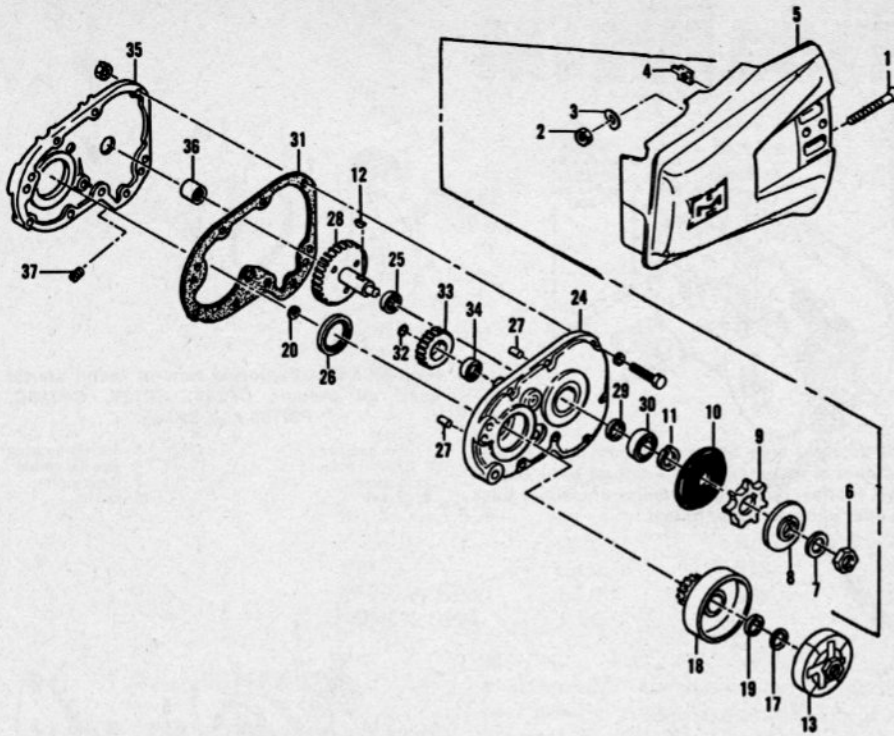
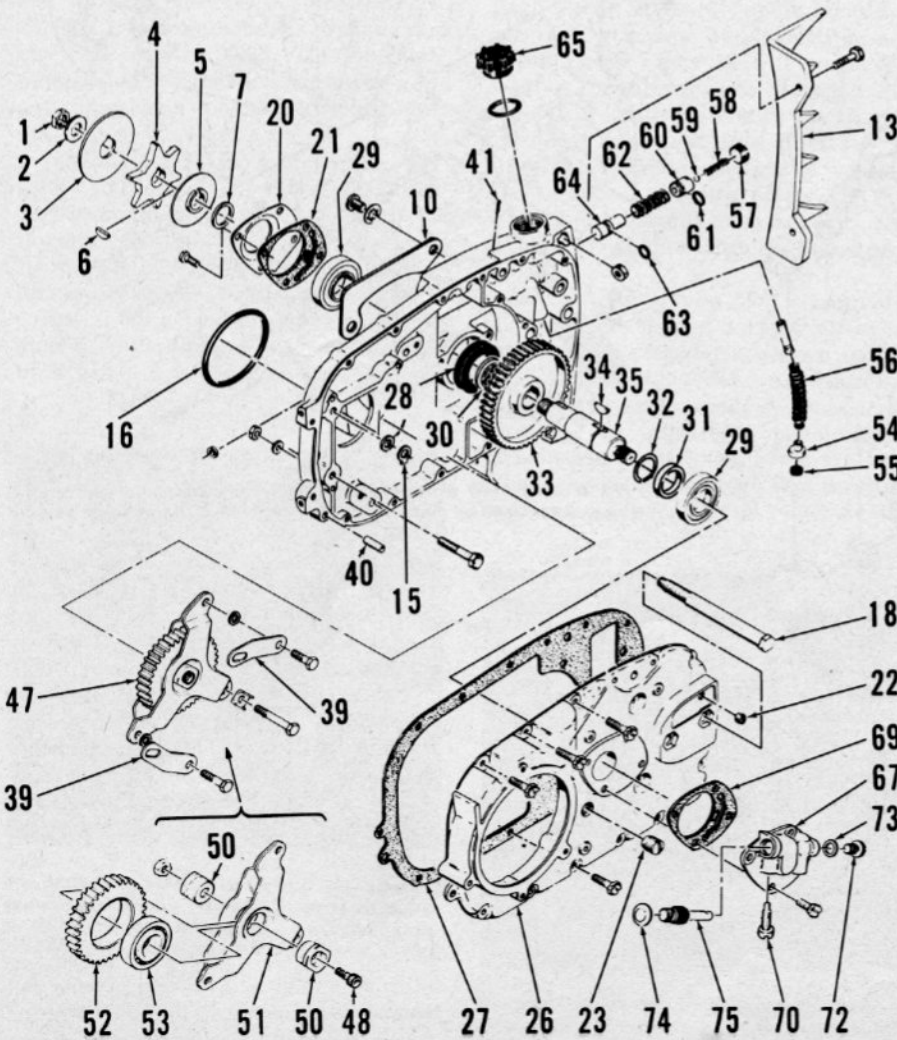

Fig. MC5-23—Exploded view of model 650 or 660 clutch guard and transmission. Input gear is on inner side of clutch drum (18).
Fig. MC5-24—Exploded view of transmission used on models 840, 890, 895 and 895C. Input gear is part of clutch drum (36—Fig. MC5-21). Shims (73) are 0.015 thick.
**TRANSMISSION.** Refer to Fig. MC5-23 for view of model 650 or 660 transmission and to Fig. MC5-24 for view of model 840, 890, 895 or 895C transmission.
is turning. Oil output is determined by the length of plunger (75—Fig. MC5-24) stroke. Length of plunger stroke is controlled by a cam groove on the plunger shaft. To change chain oil output, a different plunger must be installed. To prevent binding between plug (72) and oiler plunger (75), install a 0.015 in. shim (73).
Disassembly and overhaul of the transmission will be evident after an examination of the unit and reference to Figs. MC5-23 and MC5-24. The model 840, 890, 895 or 895C transmission components can be rotated 180 degrees to allow installing bar and chain on right side of gearcase if desired. See Fig. MC5-25. However, when chain oiler is moved to left side of gearcase, it will not function as internal passages to bar pad are not normally drilled for pump operation